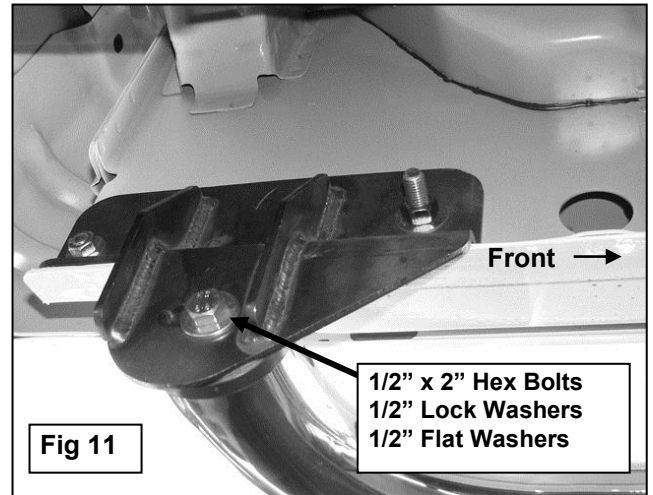

Fig 11
9. Attach the Sidebar to the Mounting Brackets using the included (2) 1/2" x 2" Hex Bolts, (2) 1/2" Flat Washers, and (2) 1/2" Lock Washers, (**Figure 11**). Do not tighten hardware at this time.